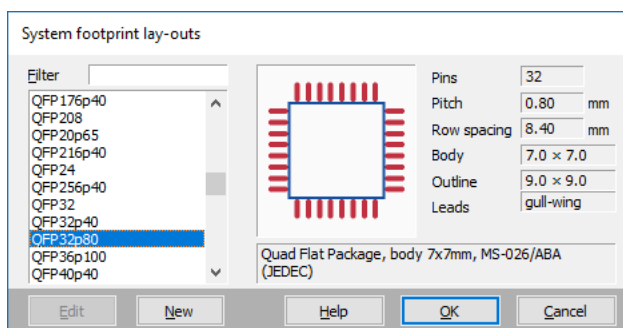

FIGURE 28: Dialog for selecting a normative package name.
- ◇ A click in the ‘Normative name’ column, allows you to choose one of the known lay-outs; see figure 28.
- ◇ From the dialog in figure 28, you can create a new footprint lay-out by selecting the New button. This is covered in the section Creating or modifying a footprint lay-out (on the next page).
In this ‘Filter’ field of the dialog in figure 28, you can filter on prefixes (such as typing ‘tssop’ to limit the list to TSSOP packages), you can in addition filter on pin count, pitch or span. For example, entering ‘pins=32’ limits the list to components with 32 pins. Multiple keywords can be combined; for example, ‘pins=32 gullwing’ filters all packages that have gull-wing pin style and a pin count of 32. Hovering over the ‘Filter’ field shows a tooltip with the full list of supported keywords.
The package names listed in the ‘System footprint lay-outs dialog (see figure 28) is also affected by the choice of the naming convention.